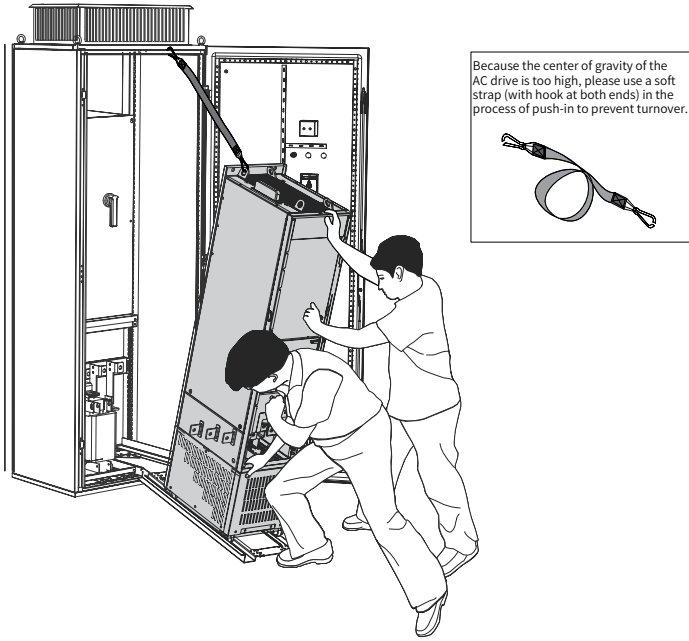
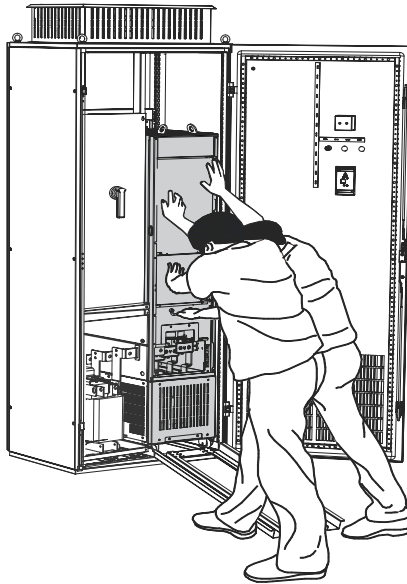

Figure 2-18 Slowly pushing the AC drive into the cabinet
Figure 2-19 Push-in completed
- ◆ Make sure to align the casters to the guide rail and arrange two persons for drive push-in and pull-out to ensure safety, as shown in Figure 2-18 and Figure 2-19.
5	Arrange two persons to align casters of the AC drive to the guide rail and push the AC drive into the cabinet slowly, as shown in Figure 2-18 and Figure 2-19. Use soft strap in the process of push-in and push-out to prevent turnover.